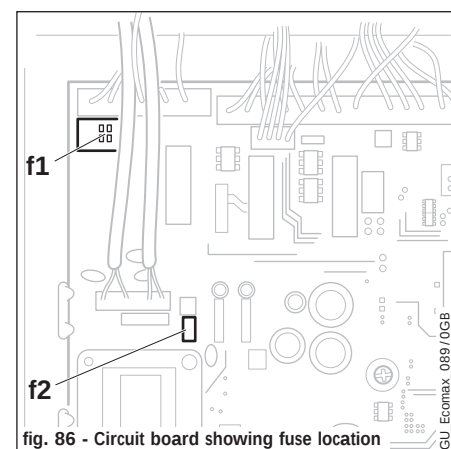

fig. 86 - Circuit board showing fuse location
3. **Note:** If the boiler display is completely blank initially check the two fuses (f1 and f2, fig. 86). (Isolate the electrical supply before checking the fuses). (Spare fuses are located on the inside of the control box rear cover).